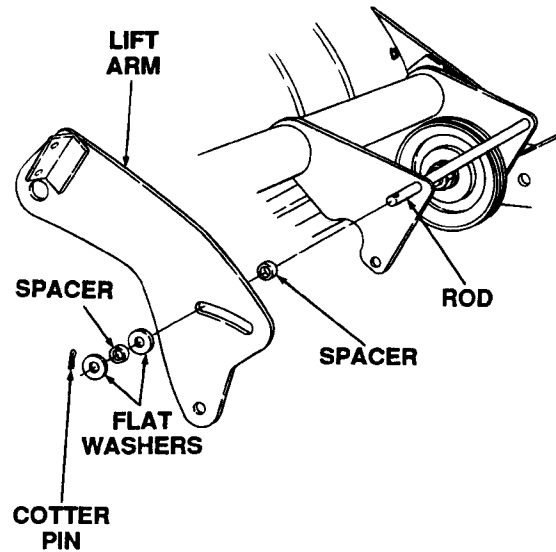
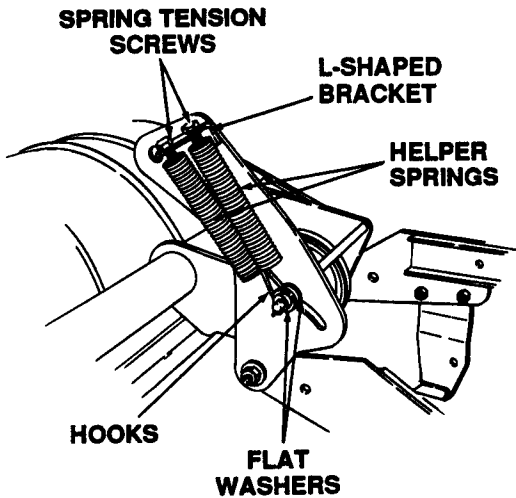

Figure 7-51. Install Lift Arm and Spacers.
Figure 7-53. Attaching Helper Springs.
2. In this order: slide a spacer (32, Fig. 7-45), the lift arm (7), a flat washer (33), the second spacer (32) and flat washer (33) onto the rod of the tiller pivot bracket. Refer to Figure 7-51. Install a cotter pin (35) in the hole at the end of the rod.
- Referring to Figure 7-53, attach and hold the hook of each helper spring (11, Fig. 7-45) onto the tiller pivot bracket rod, one hook between each end of the spacer (see Fig. 7-51) and its adjacent flat washer. Insert the two hex cap screws (16) through the holes in the L-bracket of the lift arm, and thread into the helper springs. Tighten each bolt one or two turns only, ensuring that there is no tension on the springs.
- f. Referring to Figure 7-53, tighten the two spring tension hex cap screws (16) until the upper end of the helper springs (11) are against the L-bracket of the lift arm (7).